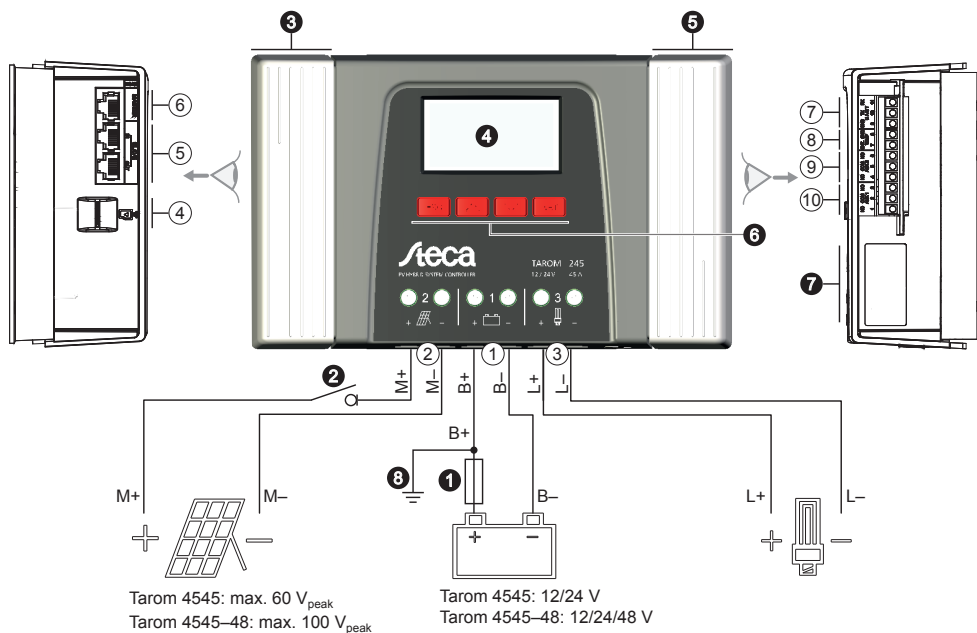

Fig. 1: Overview of casing and connections
9.2.1 RJ45 socket for Master bus (Ⓢ in Fig. 1)
9.2.2 RJ45 socket for Slave bus (Ⓢ in Fig. 1)
9.2.3 Slot for microSD card (④ in Fig. 1)
9.2.4 Relay outputs AUX 1, AUX 2 (⑨, ⑩ in Fig. 1)